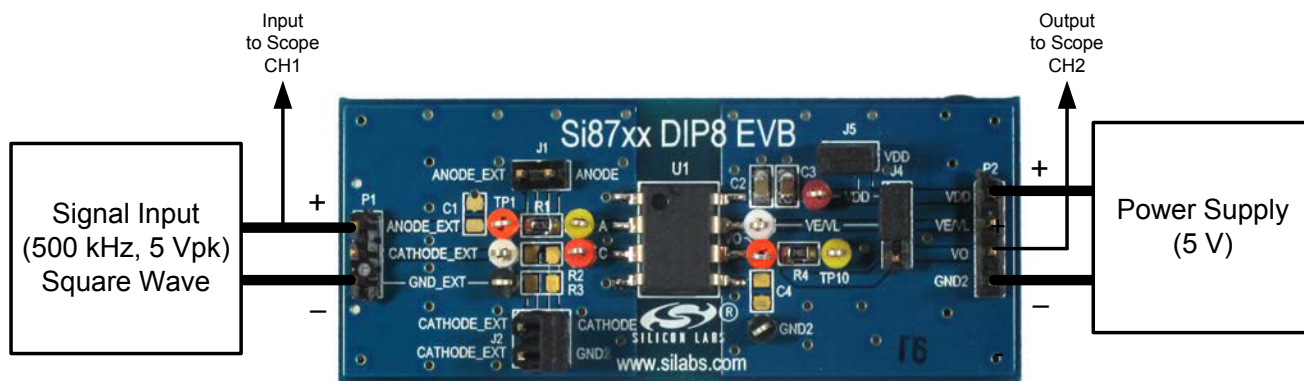
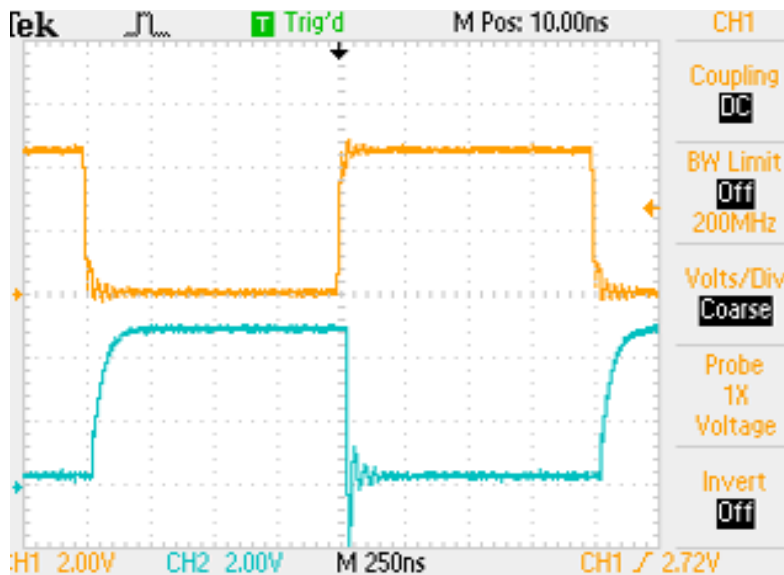

Figure 5. Summary Diagram and Test Setup
Figure 6. Oscilloscope Display of Input and Output
Figure 5 illustrates the connection diagram to demonstrate the Si87xx-DIP8 EVB. The other footprint boards demonstrate in a similar fashion. This demo transmits a 500 kHz (5 V peak, 50 percent duty cycle) square wave through the isolator to its output (Vo). In this example, VDD is powered by a 5 V supply. Figure 6 shows a scope shot of CH1 (input) and CH2 (output). Note that if a user wants to evaluate an LED Emulator Input isolator other than the ones pre-populated, this can be accomplished by removing the installed device and replacing it with the desired footprint-compatible isolator device.
To run the demo, follow the instructions below. Review Figure 5 and Figures 11 through 14 if necessary.
5. Adjust the level indicator for all channels to properly view each channel as shown in Figure 6.
A 500 kHz square wave should display on Channel 1 of the scope for the input and an inverted 5 V version of this square wave should display the output on Channel 2, as shown in Figure 6. This concludes the basic demo. For more advanced demos, see the following sections.